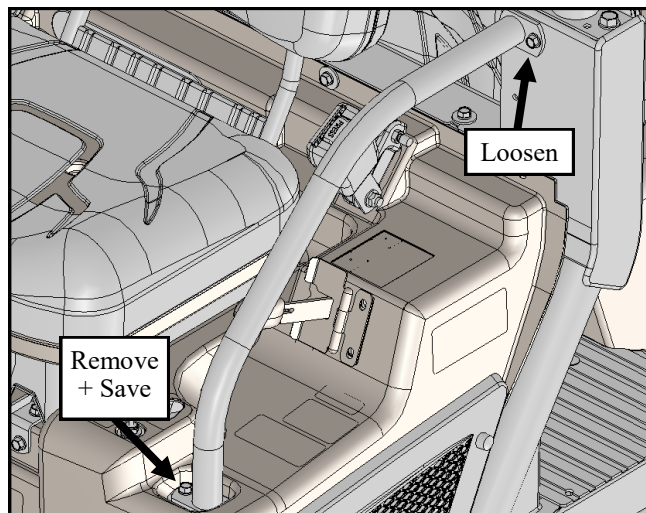

Fig. 1.1 (Left Side OE Bolt Locations)
- 1.1 Loosen left side upper hip restraint OE bolt ~3/16" to aid in removing/installing the lower bolt. Then remove and save the lower hip restraint OE bolt. See Fig. 1.1.